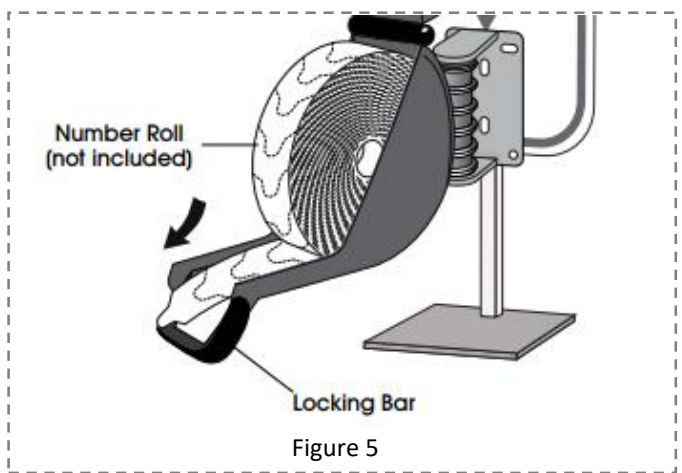

Figure 5
2. Place the roll of tickets in the dispenser, making sure the numbers are facing up and the roll out from the bottom (Figure 5)